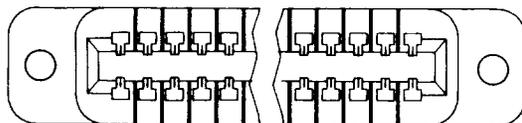

Fig. 19—KS-21244-Type Connector
**2.10 KS-21244, L1 Through L6:** The KS-21244-type (Fig. 19) are polarized, female connectors, each consisting of a molded block of insulating material equipped with pretension contacts arranged for solderless-wrapped connections. For more information, see Table E.